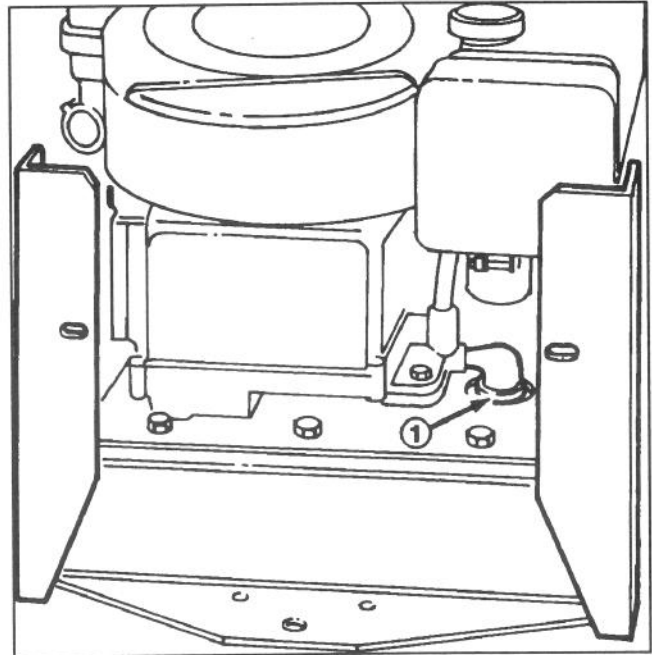

Figure 15
- B. Turn the engine off and place the drain pan below the drain plug (Fig.15). Remove the drain plug, and allow all oil to flow into the drain pan. Reinstall the drain plug after oil stops flowing.